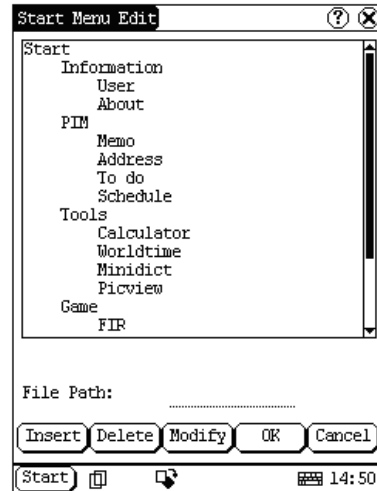

Figure 4-37
- 2) Then you can see the corresponding information in the list box of the interface. (See Figure 4-37)